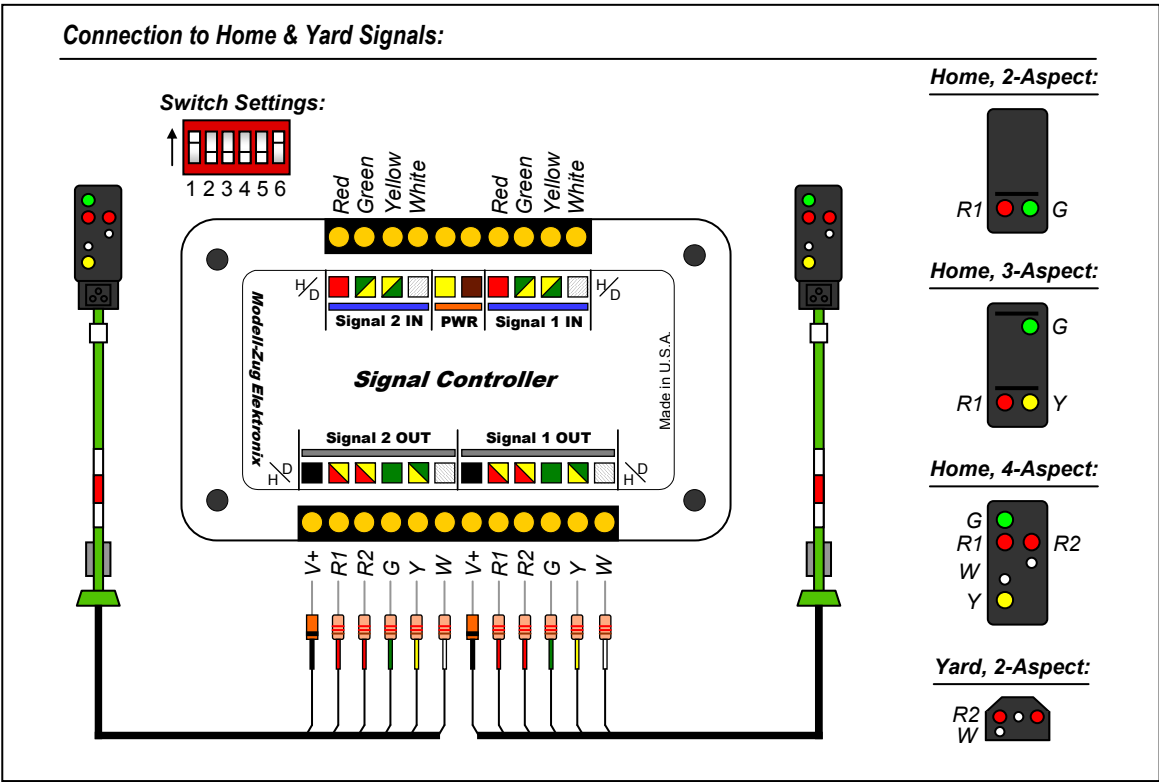

Figure 2. Connections for Home/Yard Signals
- 1) Figures 2 and 3 below show the correspondence between the Signal IN & OUT connections of the *Signal Controller* and the indication lamps of each signal type. Note the difference between the input and output connections of the *Signal Controller* for home/yard signals and distant signals. This correspondence is valid for combination home&distant signals as well.
- a) If you wish to control one, or two signals completely independent of each other, the connection diagrams shown in Figures 2 and 3 below may be used for any one or two Home, Yard, or Distant signal(s). The Home/Distant mode configuration switches for each side of the controller must be set accordingly.